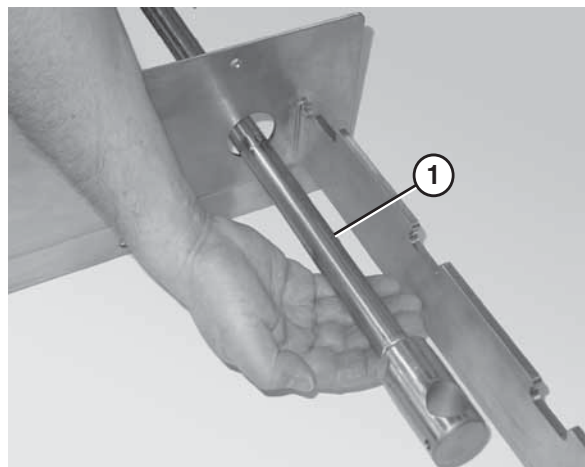

Figure 18
1. Slide the tip up shaft (**Figure 18, item 1**) through the designated slots in the frame.